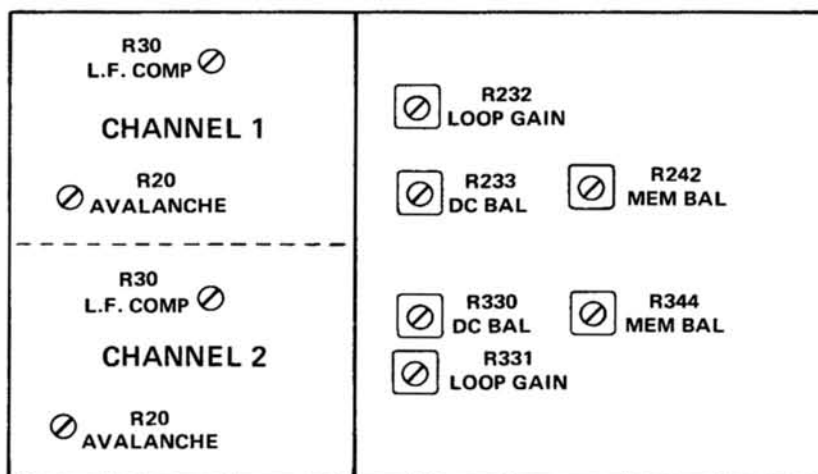

Fig. 7-11. Vertical Adjustment Locations.
a. Change the DELAYED SWEEP control to 1 ns, the CH 1 VOLTS/DIV to .1, then center the step using the DELAY TIME MULT control. Preset R232 (R331 for CH 2 - see Fig. 7-11) fully counterclockwise.
b. Rotate R20 (see Fig. 7-11) clockwise until the step disappears then counterclockwise until it barely makes a clean display. Note the horizontal position of the bottom corner and set R20 further counterclockwise until the bottom corner moves to the left one-half division. Ignore any vertical movement.
a. Change the time per division of both sweeps to 1 μ s. Temporarily disconnect the signal from the CH 1 INPUT. Using two screwdrivers or adjustment tools, one on R232 and one on R233, (see Fig. 7-11), set R233 to minimize vertical movement of the trace while rotating R232 back and forth over the first 90 degrees from the counterclockwise end of its travel. Temporarily set R232 fully counterclockwise.
a. Change the time per division of both sweeps to 1 μ s. Temporarily disconnect the signal from the CH 2 INPUT. Using two screwdrivers or adjustment tools, one on R331 and one on R330 (see Fig. 7-11), set R330 to minimize vertical movement of the display while rotating R331 back and forth over the first 90 degrees from the counterclockwise end of its travel. Temporarily set R331 fully counterclockwise.
Adjust R30 (see Fig. 7-11) for a flat, level top of the 10 μ s square wave.
Adjust R30 (see Fig. 7-11) for a flat level top (or bottom) of the 10 μ s square wave.